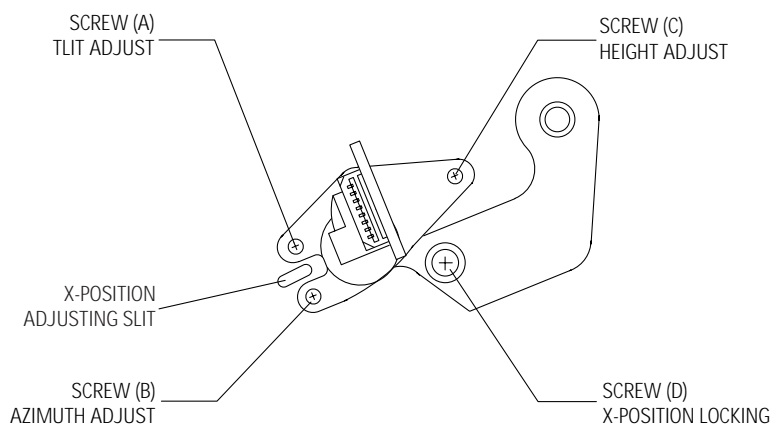

Fig. 4-7 Location of ACE Head Adjustment Screw
- 3) Turn screw (C) clockwise or counterclockwise until the gap of lower tape edge and the lower edge of the control head is about 0.25mm. (Refer to Fig. 4-7 and 4-8)
- 3) Adjust screw (B) to achieve maximum audio level. (See Fig. 4-7)